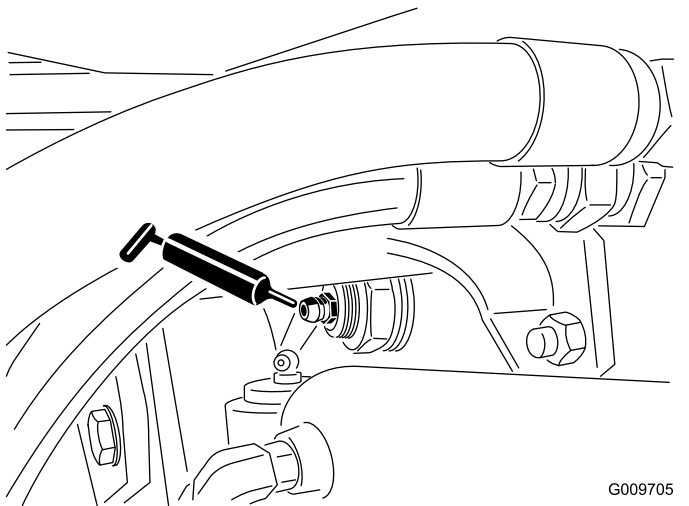

Figure 70
- Rear axle pivot bushings (2) (Figure 70)